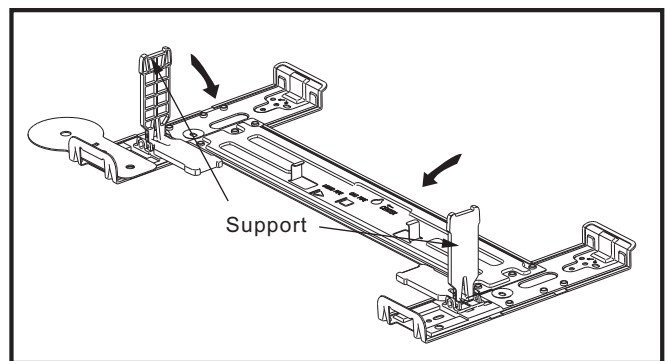
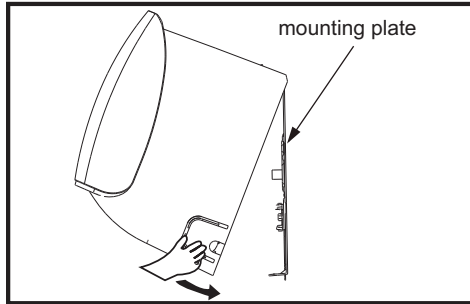

Fig. 18
Fig. 19
- 7) Close the two supports on the wall mounting plate as shown in Fig. 18. Then move the unit step by step to reach the best installation, then press the unit into 2 down slots (Fig.19).